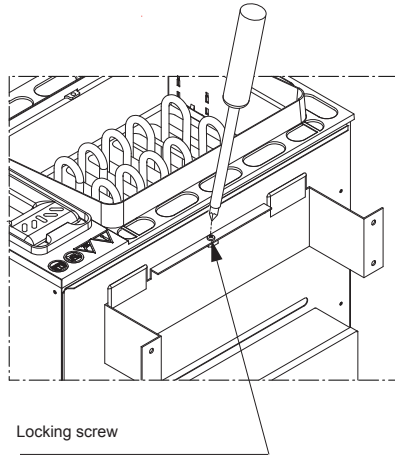

Fig. 7
5. Fix the sauna oven to the wall bracket by means of a sheet-metal screw through the drilled hole on the back of the oven (Fig. 7).